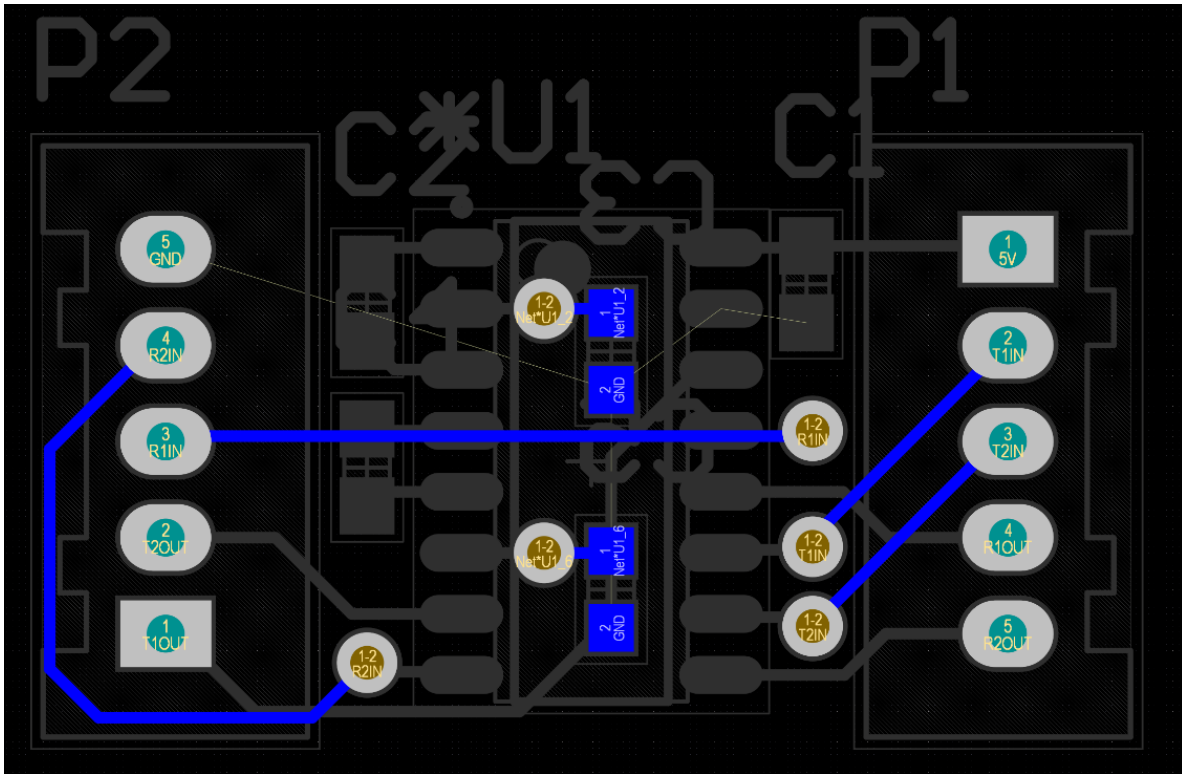

Figure 18: Bottom View of Via Connections
31. You should get layouts similar to Figures 18 and 19.